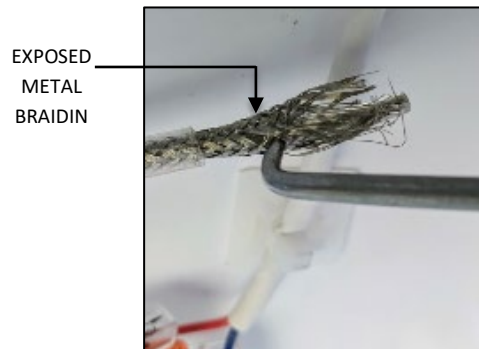
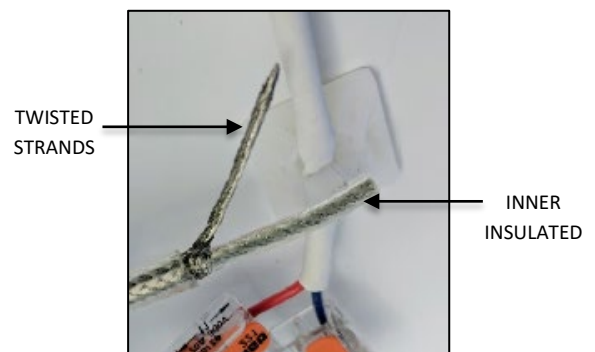

FIG. 36
FIG. 37
2. Using a small pointed object, begin unweaving the exposed metal braiding as shown in FIG. 36 below. Position the unwoven metal strands on one side of the inner insulated wire and twist the individual strands together as shown in FIG. 37 below.